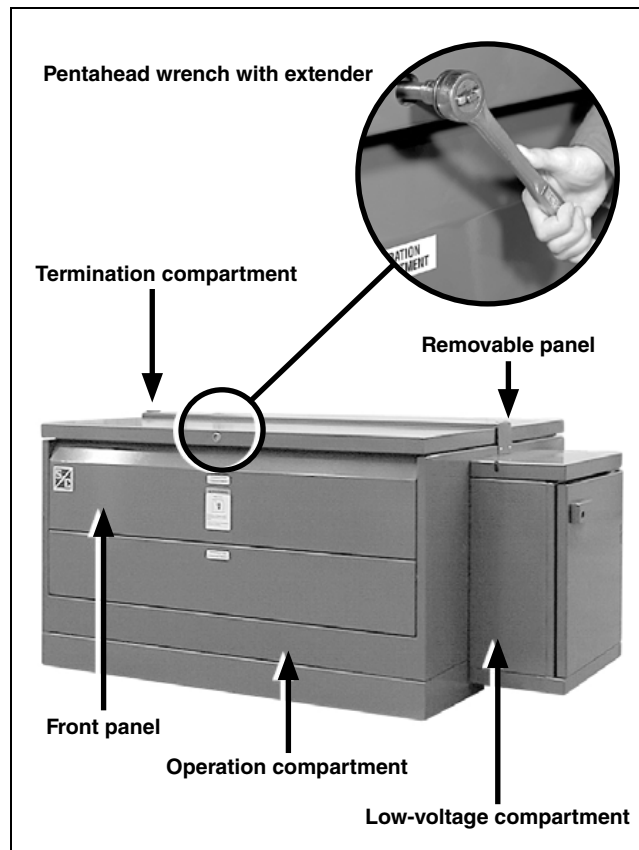

Figure 7. A pad-mounted Vista switchgear enclosure with the roofs closed.
- STEP 1.** Loosen the pentahead bolts securing the hinged roofs to the enclosure using a pentahead socket wrench with extender or a pentahead tool. See Figure 7.